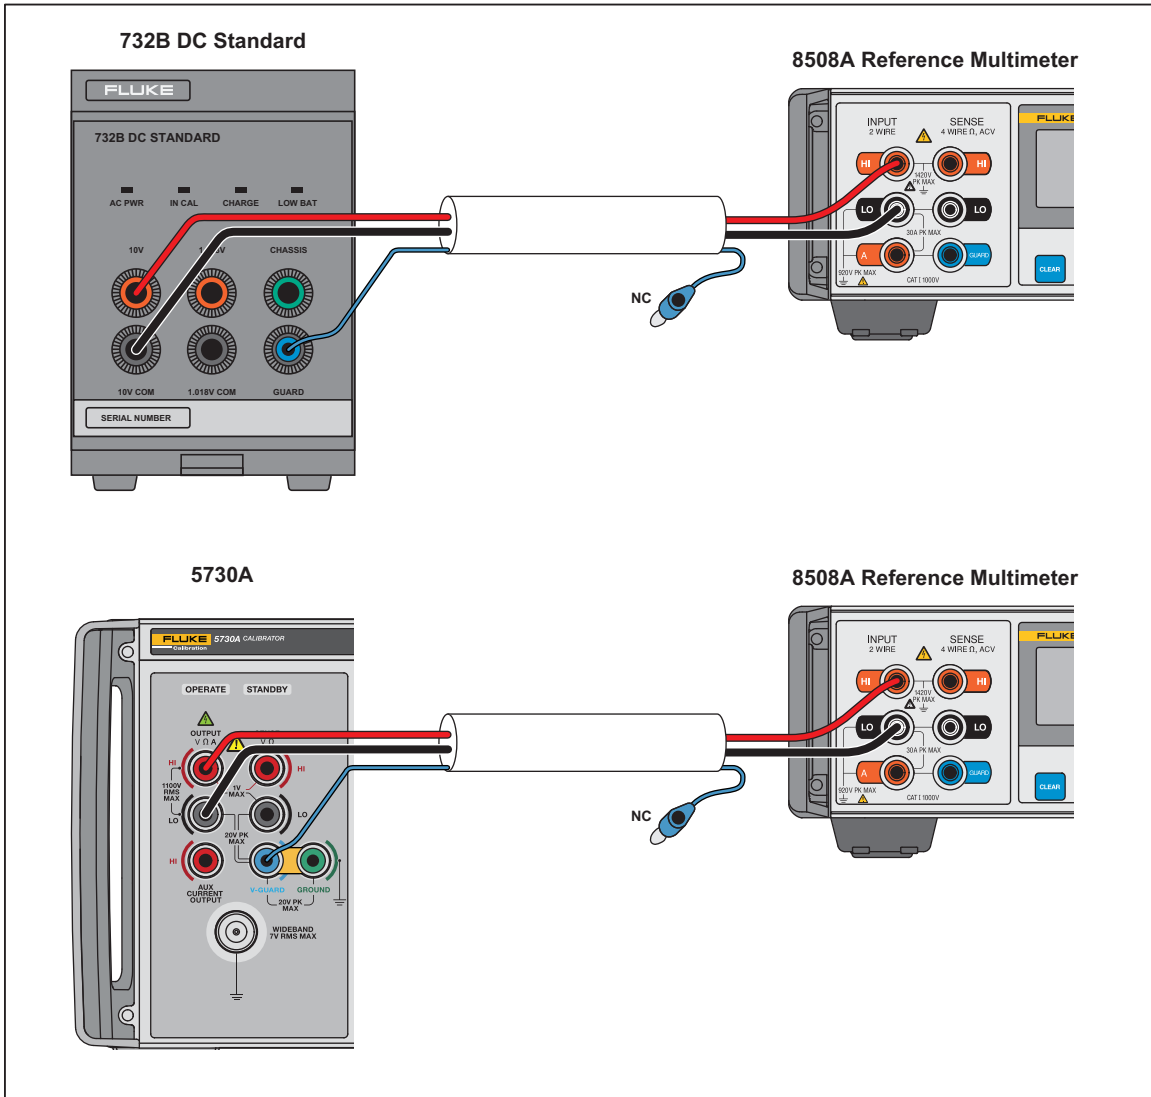

Figure 12. 19 V DC Verification Connections
1. For this test, connect the 10 V standard to the 8508A as shown in Figure 12.
5. Connect the Product to the 8508A as shown in Figure 12.
10. Connect the Product to the 8508A as shown in Figure 12.